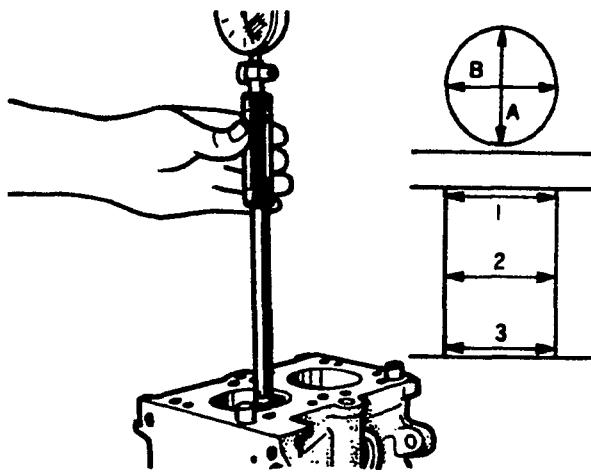

FIGURE 9-65. MEASURING CYLINDER BORE
4. Using a cylinder gauge, measure the cylinder bore for eccentricity. If excessive wear is evident, correct the cylinder to oversize and replace the piston and piston rings. The measuring points are shown in Figure 9-65.